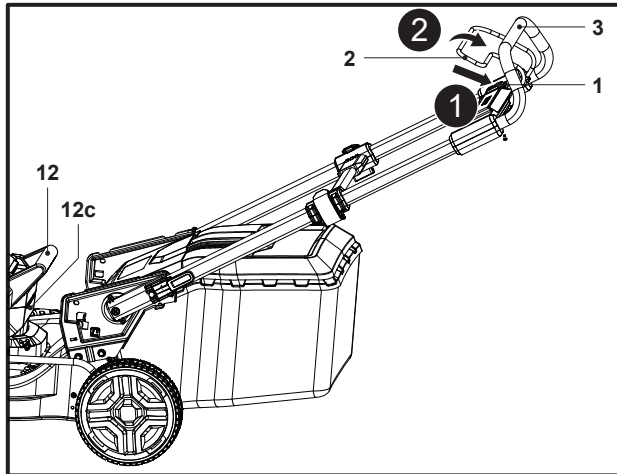

Fig. 18
1. Open the battery compartment cover (12) and install the battery pack (24) into the battery compartment (12e).
2. Close the battery compartment cover (12).
3. Stand behind the grip handle (3).
4. While holding the safety switch button (1) pressed (Fig. 18, step 1), pull the start levers (2) towards the grip handle (3) within 5 seconds and hold it in position (Fig. 18, step 2).
5. After the lawn mower starts, release the safety switch button (1).
6. The actual battery capacity will be displayed on the battery display (12c) at the back of battery compartment cover (12).
7. The work lamp (12f) at the front of battery compartment cover (12) will be automatically powered on.